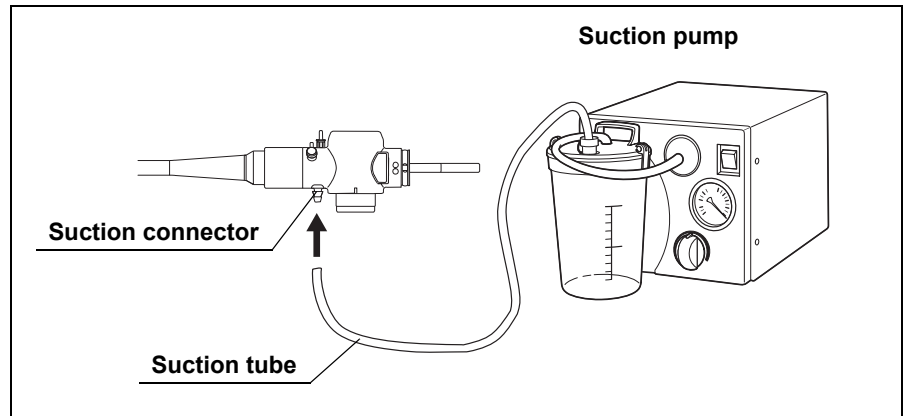

Figure 3.24
12. Connect the suction tube from the suction pump to the suction connector on the endoscope connector (see Figure 3.24).